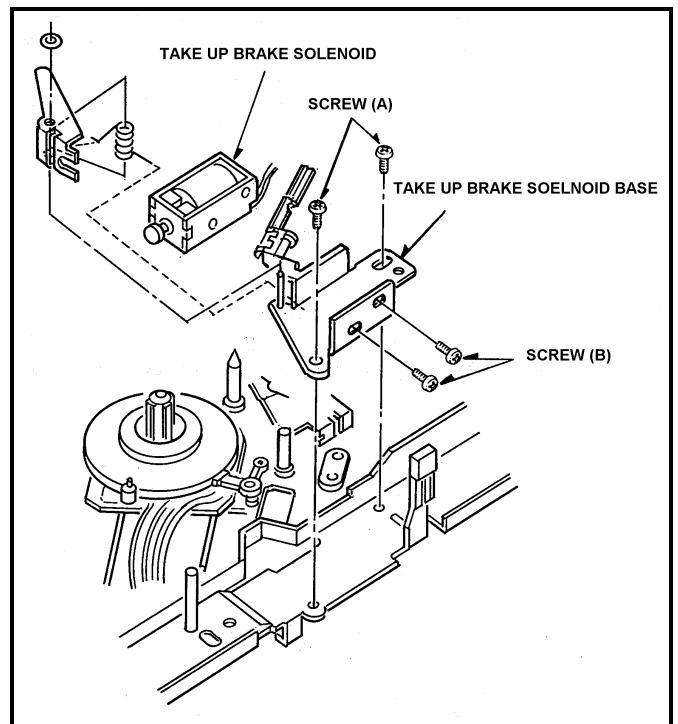

Fig.6-6-1 Removal of Take Up Brake Solenoid
- Note:** Hang on the Supply Brake Spring as shown in Figure 6-6-1.
5. Unscrew the 2 screws (A) and remove the Take Up Brake Solenoid Base Unit as shown in Figure 6-6-1.
6. Unscrew the 2 screws (B) and remove the Take Up Brake Solenoid from Take Up Brake Solenoid Base Unit as shown in Figure 6-6-1.
- Note:** Hang on the Take up Brake Spring as shown in Figure 6-6-1.